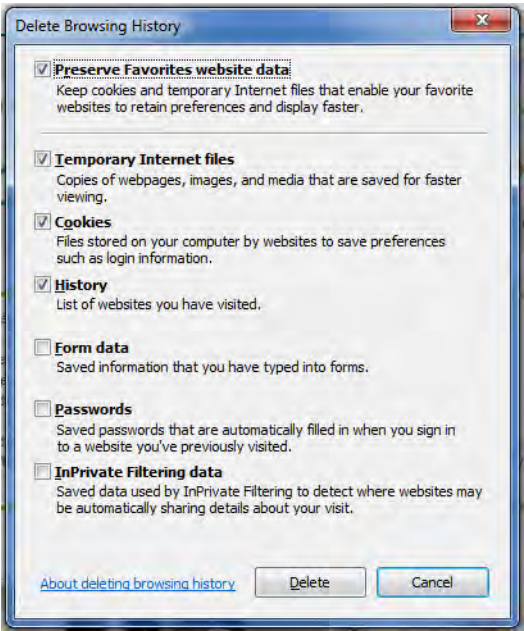
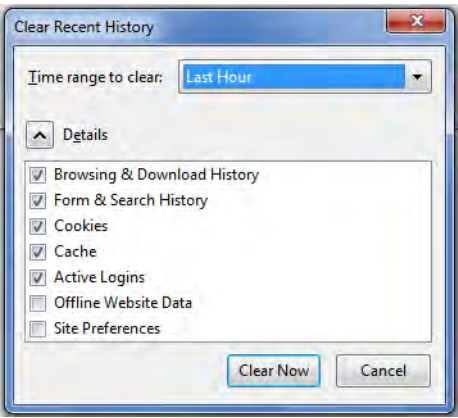

Figure 3-2 Internet Explorer Delete Browsing History
Figure 3-3 Firefox Clear Recent History
2. In the dialog box that opens (varies for each web browser), select an option to clear temporary Internet files or “cache”. See examples in Figure 3-2 and Figure 3-3 on page 3-39.